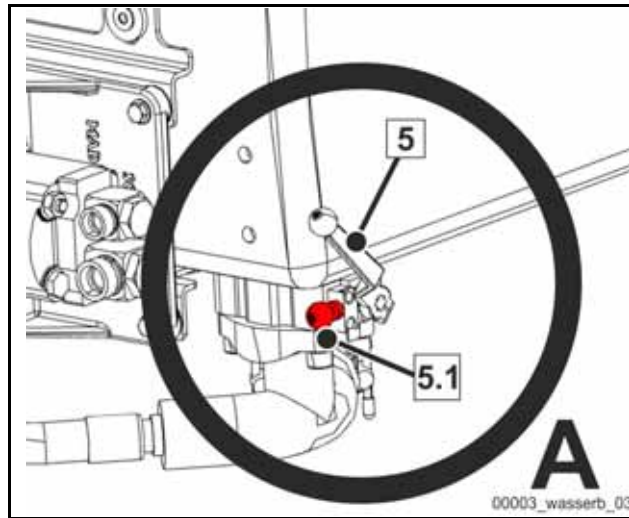

Fig. 438
- Loosen the fuse (5.1) (**Fig. 438**) on the water case and lock the connection to the water case by switching the ball valve (5) (**Fig. 438**).
- Before restarting the HPC, do not forget to switch the ball valve (5) (**Fig. 438**) on the water case to the “Operating position”.